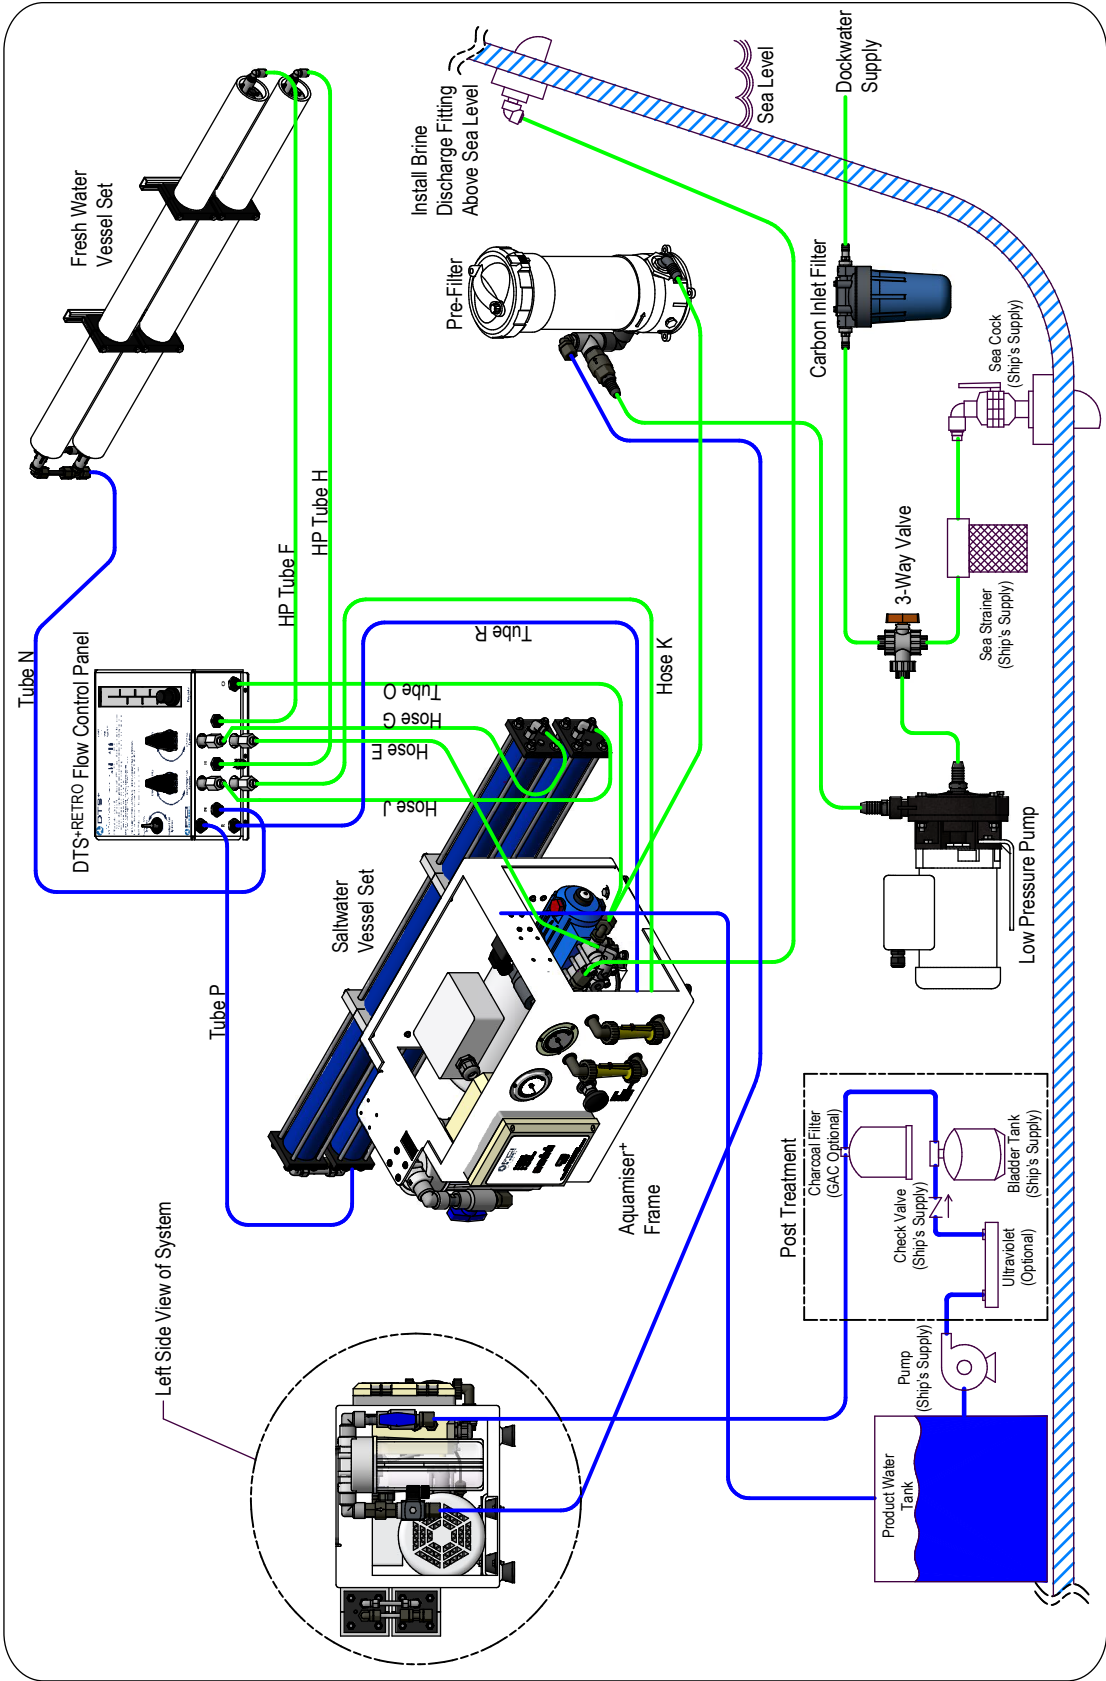

Figure 14: Aquamiser+ Frame 800-1,200 GPD with DTS+RETRO
- "Figure 14: Aquamiser+ Frame 800-1,200 GPD with DTS+RETRO" on page 36